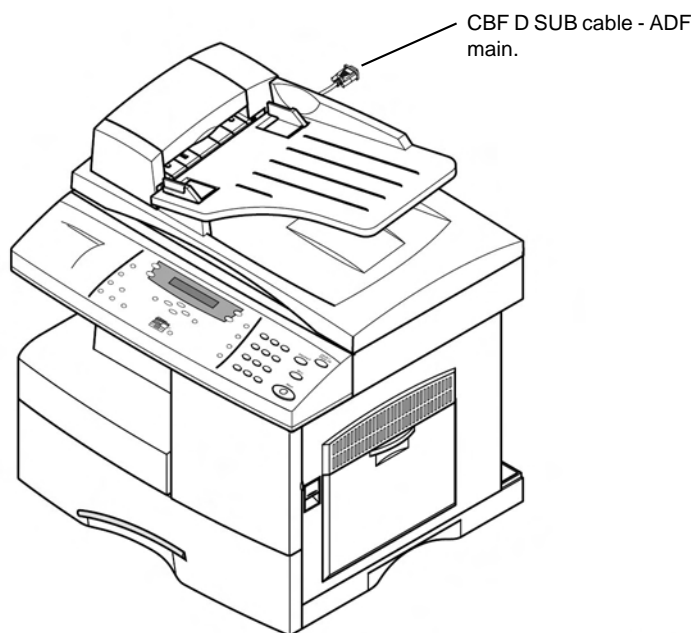

Figure 1 CBF harness - DSUB
1. Disconnect the CBF D SUB cable - ADF main, Figure 1.